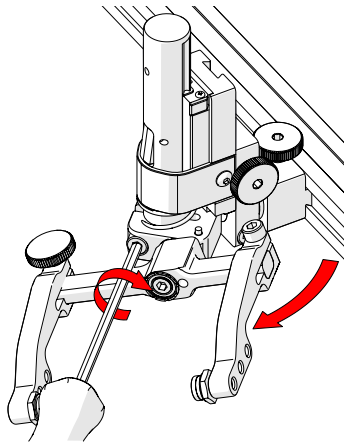

Fig. 70 - Rotate and tighten
3. Tighten the transverse adjustment screw (*Fig. 70*).